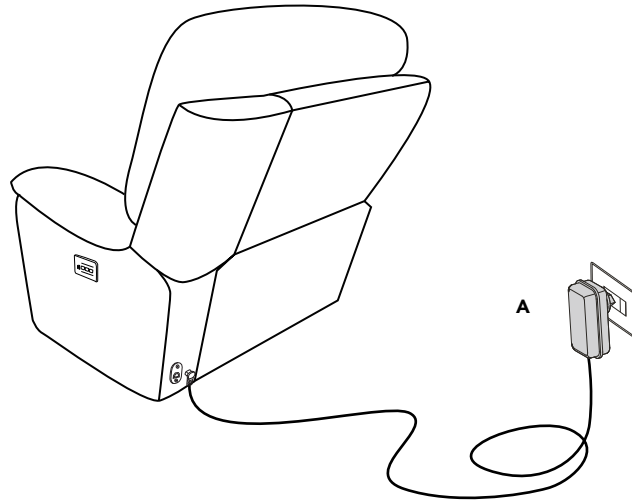

Figure 7.1
- 7** Plug the end cord of transformer into the recliner, Then plug the transformer into a nearby outlet. Make sure the cord doesn't touch the mechanism. (See Figure 7.1)